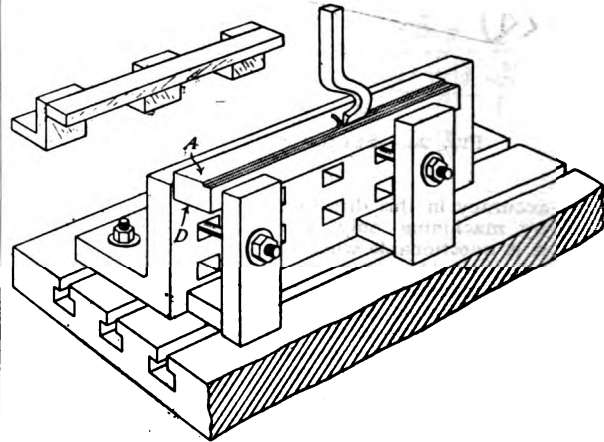
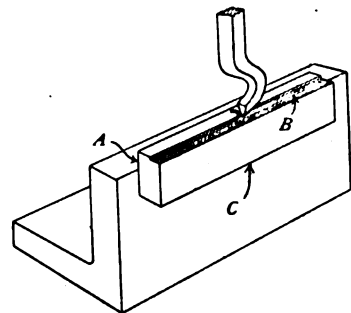

FIG. 27.
FIG. 28.
A COMPARATIVELY long bar of small cross section is somewhat difficult to hold directly upon the table, and is more conveniently clamped against an angle-plate (see Fig. 27). A short bar can, of course, be held in a vice which
would be placed with its jaws lengthways with the table. The method shown in Fig. 27 is a substitute for the vice. If no angle-plate is available of sufficient length, two or three short angle-plates may be used, according to the length of the
bar, as suggested by the small sketch, Fig. 27. When such a bar is to be planed all over, the way to proceed is as follows:—Plane one side A (as in Fig. 27), then take the bar out and clamp it as in Fig. 28 with the planed side A against the angle-plate. Now finish the top-side (B) as Fig. 28; take it out and reverse it end for end so as to bring the newly planed side underneath, still keeping the side which was first finished against the angle-plate,
Side C will now be on top; plane it and then clamp the bar as in Fig. 27, but with the remaining rough side D on top. Plane it and the bar will